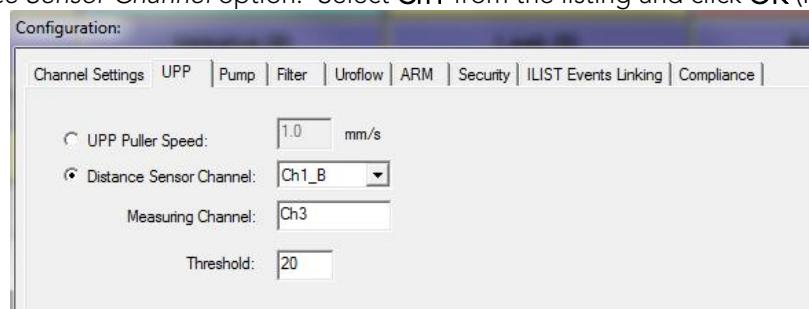

Figure 69: UPP Tab – Distance Sensor Channel
2. Select the *Distance Sensor Channel* option. Select **Ch1** from the listing and click **OK** (Figure 69).